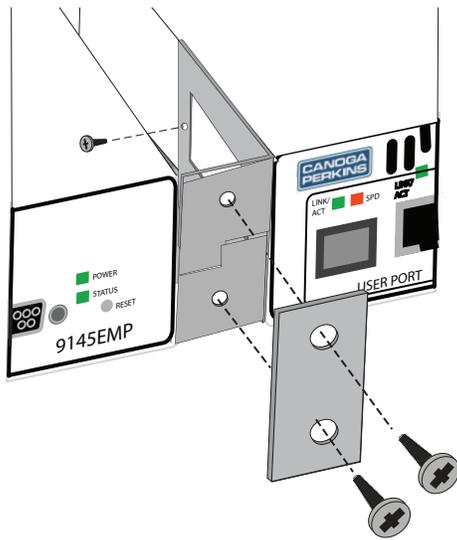
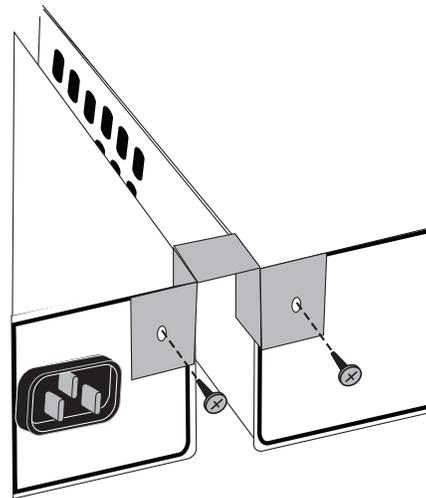

Figure 3-5 Install Center Brackets and Strap
Figure 3-6 Install Rear Center Bracket
1. Install the 19" Dual Unit or 23" Dual Unit Rack Mount Bracket Kit. The Rack Mount Kit includes two rack mount brackets, two center brackets, a strap, a rear bracket, and the screws required to attach the brackets to the 9145EMPs. The mounting brackets attach to the two threaded holes on the outside of each 9145EMP, toward the front (Figure 3-3). The two center brackets attach to the two threaded holes on the inside of each 9145EMP, and the strap mounts over the front of each center bracket (Figure 3-5). The rear center bracket is attached to the threaded holes at the top inside corner of the back of each 9145EMP (Figure 3-6).